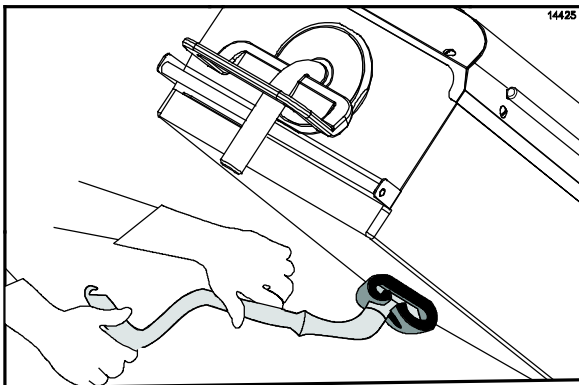

Figure 55
25. Scrub the platen surfaces, starting from the right platen to the left platen. (See Figure 55.)